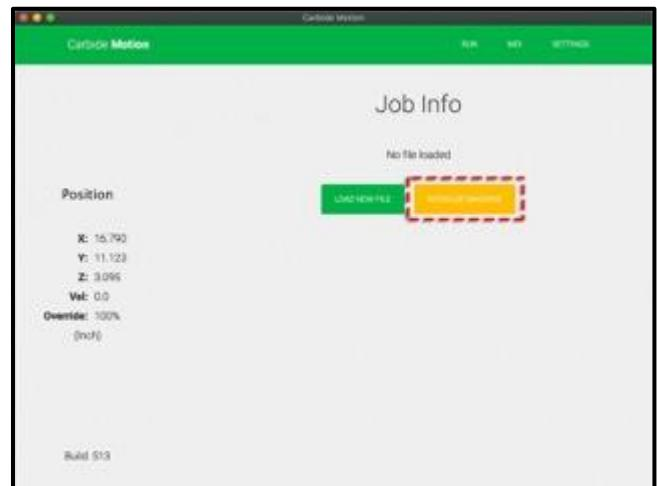

Figure 13-4
1. Click the yellow **Initialize Machine** button. See *Figure 13-4*. This activates the homing sequence and your machine will do the following: